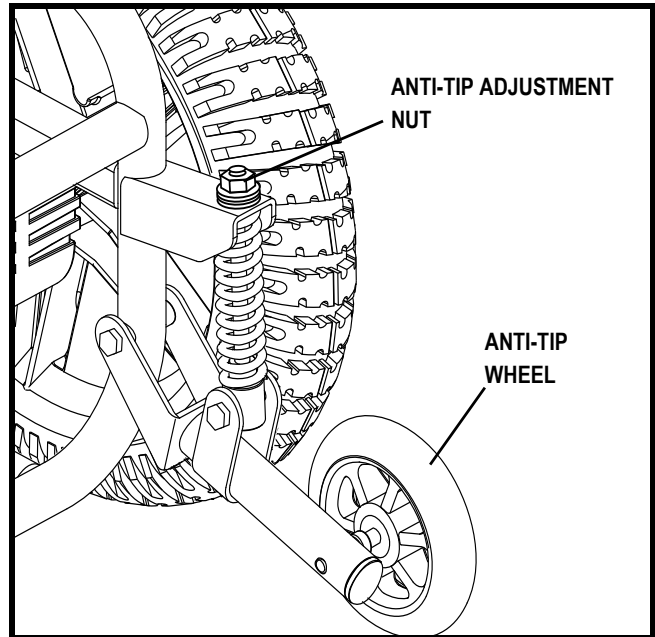

Figure 18. Anti-tip Adjustment
6. Adjust the anti-tip adjustment nut so that the anti-tip wheel is 0.50-1 in. (1.27-2.54 cm) off of the ground. See figure 18.